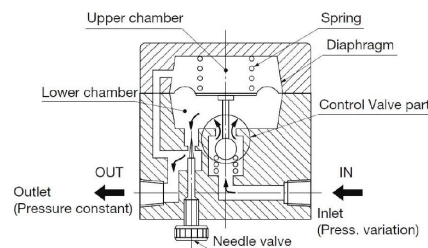

Figure 1. Design for inlet pressure variation control
- 1) The first is inlet pressure variation control model. In this type, the fluid is introduced from IN to the lower chamber of the C series Constant Flow as shown in figure 1. The load pressure (Secondary pressure) is connected to the upper chamber. The differential pressure between the lower chamber and the upper chamber is always constant thanks to the function of the spring and the diaphragm. The differential pressure across the needle valve is kept always constant and the flow rate of the fluid is proportional only to the opening of needle valve.